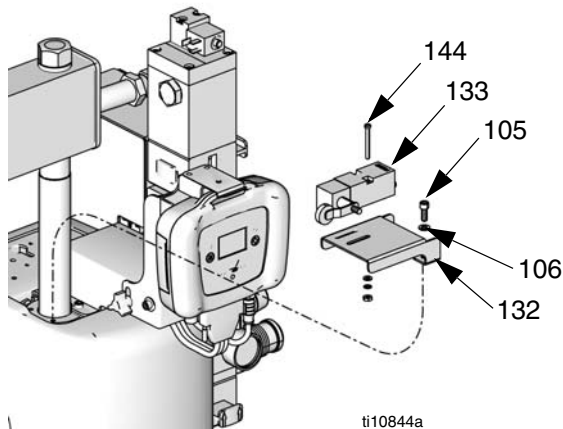
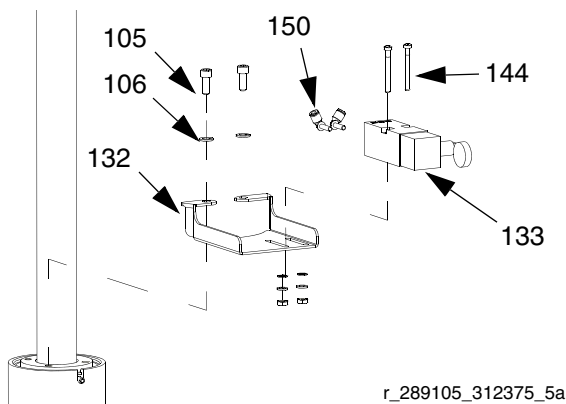

FIG. 7: D200 and D200s Bracket
FIG. 8: D60 Bracket
1. Attach roller switch (133) to bracket (132). Position roller switch to far back position on the bracket and leave mounting screws (144) loose.
2. Attach bracket (132) to ram with screws (105) and washers (106). Leave screws loose. See FIG. 7 and FIG. 8.